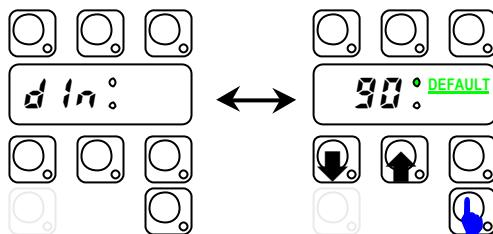

Fig. 3.2
- Press CYCLE_INFINITE. The display shows alternatively the symbol **d_{in}** and the duration in seconds (Fig.3.2 and 3.3); NOTE: If User Interface v.3.00 tank led is on if value correspond to factory default (Default 1, HOOD TYPE).